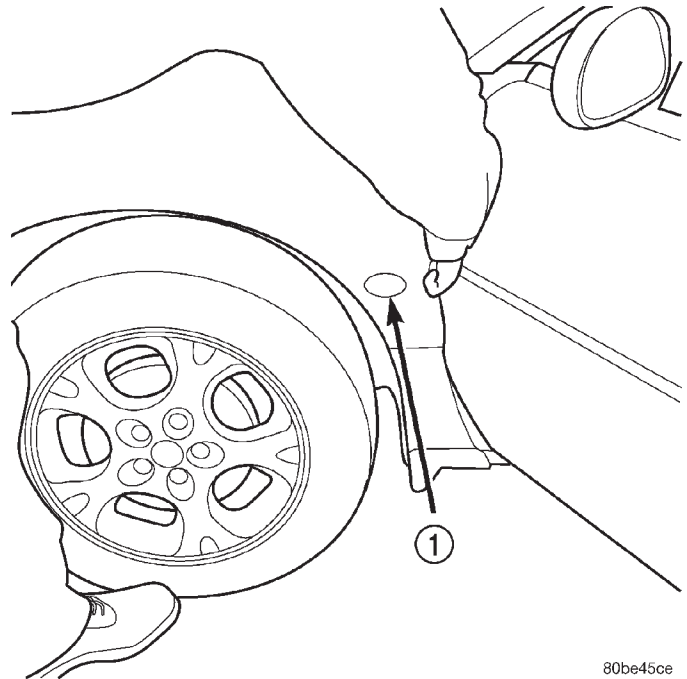

Fig. 7 Access to Side Turn Signal Repeater Lamp
(1) Open door to gain access to the rear of side repeater lamp (Fig. 7).